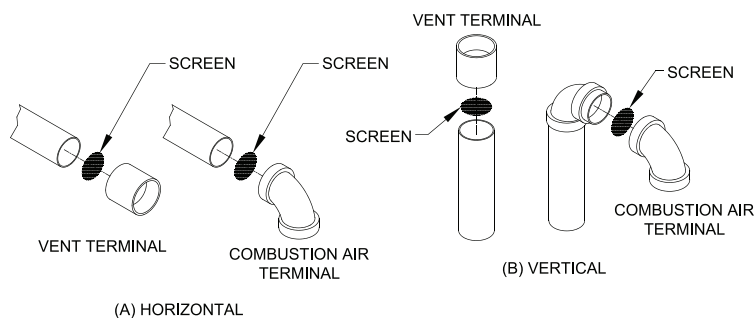

Figure 16: Screen Installation
- Install screen and vent terminal (supplied with boiler). See Figure 16 for appropriate configuration details.
- Install screen and combustion air terminal (supplied with boiler). See Figure 16 for appropriate configuration details.
- Install screen and vent terminal (supplied with boiler), see Figure 16 for appropriate configuration.
- Install screen and combustion air terminal (supplied with boiler). See Figure 16 for appropriate configuration.
- Install screen and vent terminal (supplied with boiler). See Figure 16 for appropriate configuration.
- b. If using M&G duravent PolyPro pipe, install screens per Figure 16. Remove gasket inside termination and install screen in place of gasket. If using Centrotherm InnoFlue or Z-Flex Z-Dens end pipe, screen fits onto end of pipe.